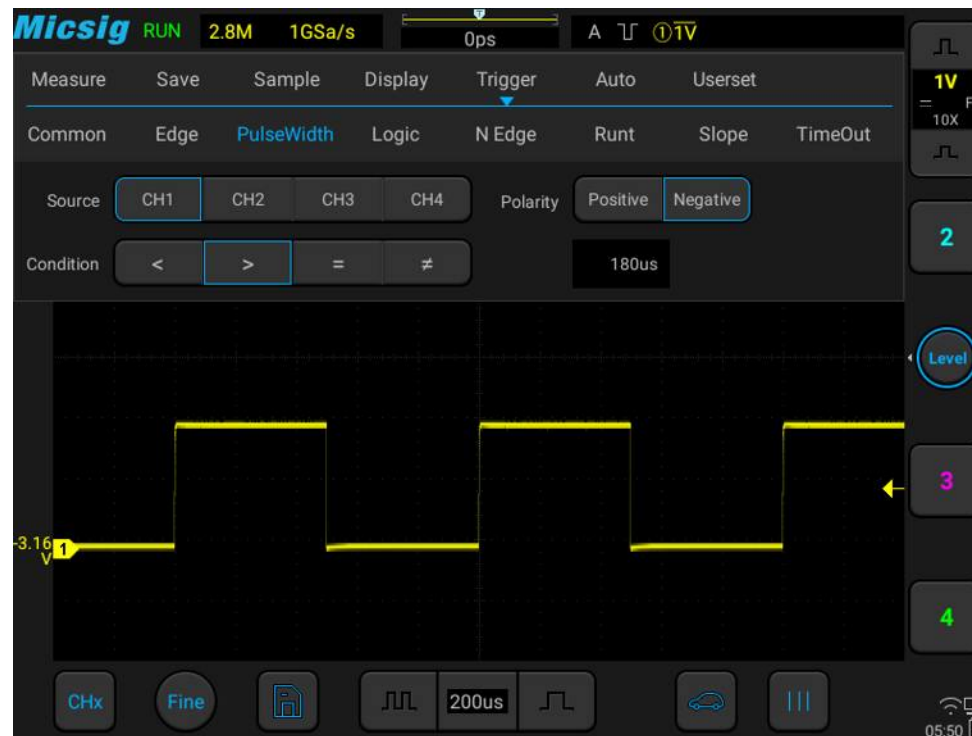

Figure 7-15 Negative Polarity Pulse Level Flip
lower than current trigger level (CH1 negative pulse indication icon $\square \sqcup$ ① 1.00V). When triggered on positive polarity pulse, if the restrictions are true, the trigger will happen on the high-to-low transition of the pulse; when triggered on negative polarity pulse, if the restrictions are true, the trigger will happen on the low-to-high transition. (Figure 7-15 Negative Pulse Level Flip)